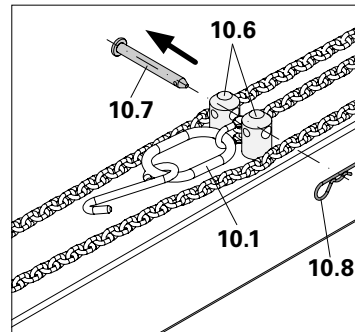

Fig. A3.02a
1. Remove cotter pins (10.8) and bolts (10.7) from the spigot (10.6). (Fig. A3.02a)